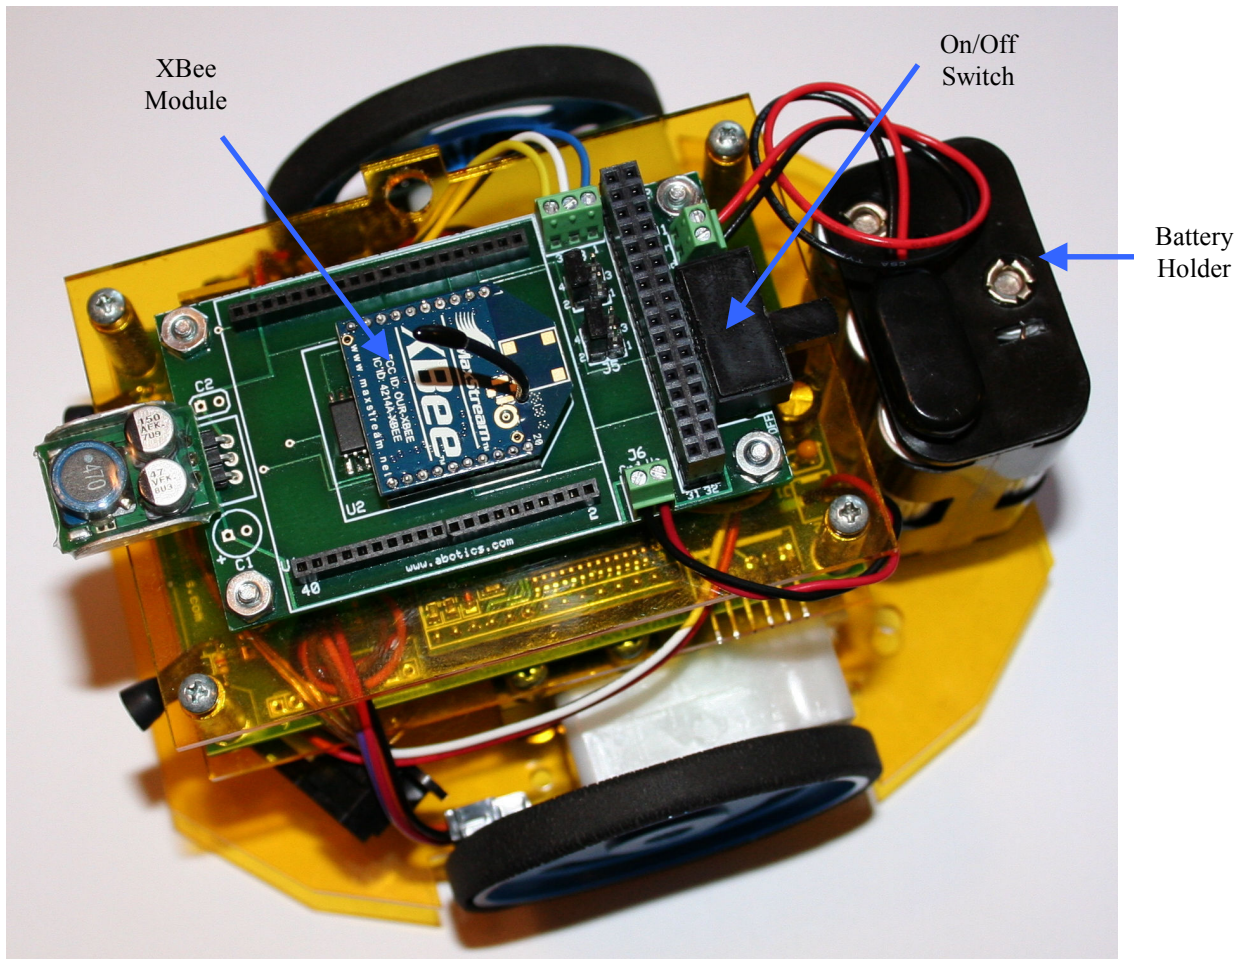

Figure 64. OPEN-ROBOT shown with XBee wireless module.
In figure 64 you can see the robot's on/off switch and the (6)-AA battery holder. Before we get started, remove the battery holder by unsnapping it from the robot's base plate. Firmly hold the robot with one hand while pulling the battery holder. Now load (6)-AA batteries into the holder while observing the proper insertion orientation. The negative (-) end of the each battery must be inserted such that it makes contact with the corresponding spring on the holder. ***Failure to do this will damage the robot's controller board.*** We recommend using 15-minute rechargeable AA-batteries, however, you can use regular